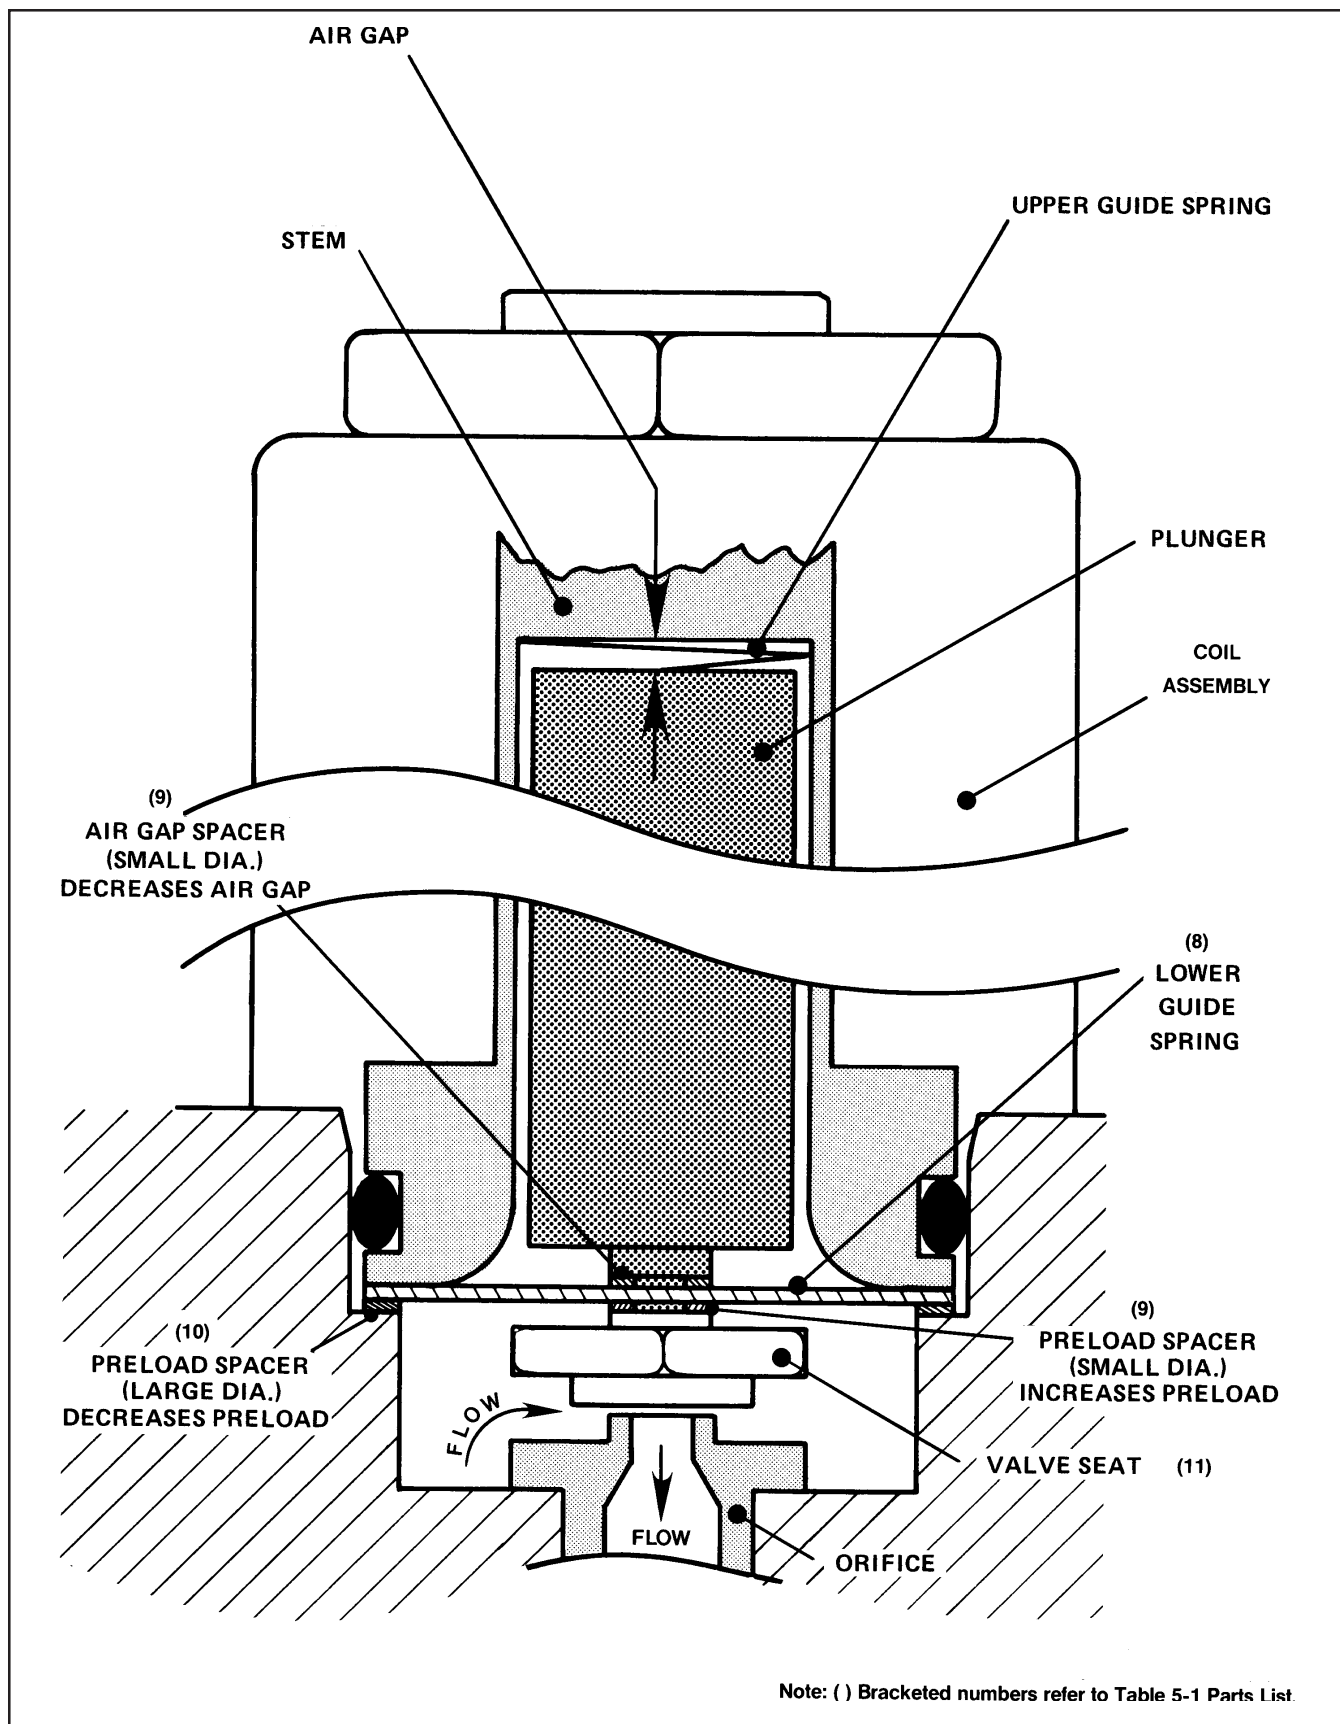

Figure 4-2 Valve Adjusting Spacer Locations
The valve is adjusted in Brooks Mass Flow Controllers by adding spacers (9 and 10) to the control valve assembly to vary the air gap and initial preload. Spacers are used to affect the proper adjustment because they provide a reliable and repeatable means for adjustment. Screw type adjustment mechanisms can change with pressure or vibration and introduce an additional dynamic seal that is a potential leak site and source for contamination. Refer to Figure 4-2 for spacer locations.
- d. Decrease the preload of the valve by 0.005 inches by either removing a 0.005-inch small preload spacer or by adding a 0.005-inch large preload spacer. Refer to Figure 4-2.
- j2. If the flow controller output signal is 100% and the valve voltage is greater than 11.5 V, decrease the air gap with a small 0.005 inch air gap spacer. Refer to Figure 4-2. Repeat Steps h and i.